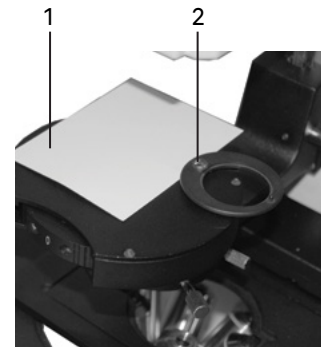

Fig. 11a. Centering the light source
1. Place a sheet of white paper (approximately 40x50mm) 1 on the condenser as shown in Figure 11a. While doing so, move the filter holder 2 aside.